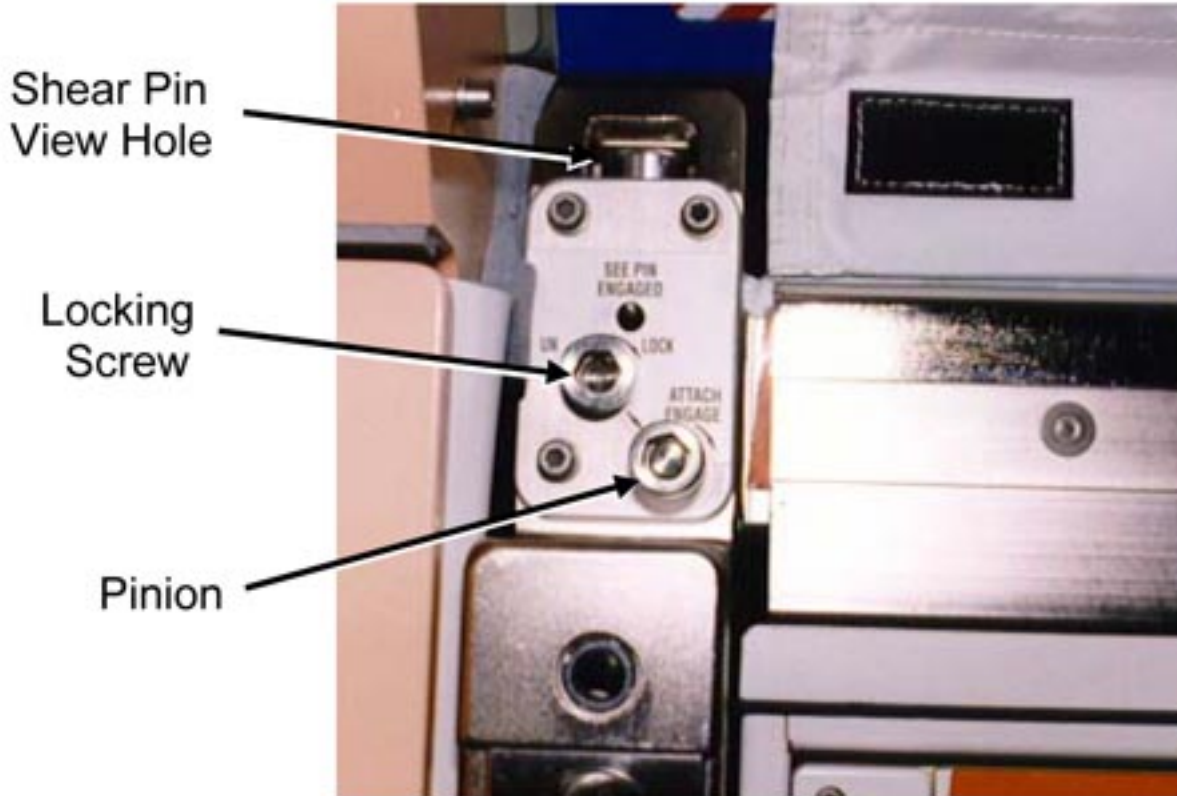

Figure 5. Upper Attach Mechanism, Left Side, Typical.
- 3.1 Loosen left Locking Screw 10 to 12 turns or until threads completely disengage (Ratchet, 3/8" Drive; 6" Long, 3/8" Hex Head, 3/8" Drive). Refer to Figure 5.
- 3.2 Disengage left Pinion one full turn until hard stop (Ratchet, 3/8" Drive; 6" Long, 3/8" Hex Head, 3/8" Drive). Refer to Figure 5.